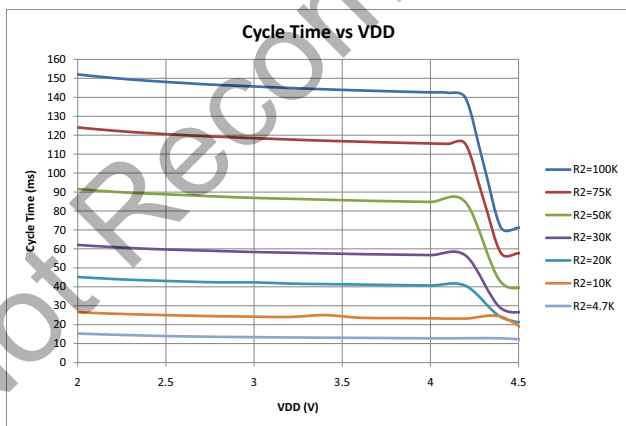

Figure 6. Cycle Period vs. V_{DD}
1. Max column also applies to $V_{DD} > 3.6\text{ V}$. See Figure 6.
- Updated Figure 1 and Figure 6.